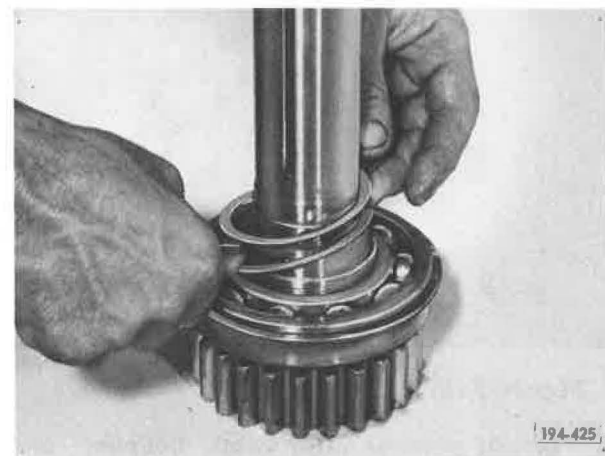

Figure 5-471. Installing Snap Ring
2. Install bearing retaining spirolax snap ring. See **Figure 5-471**.